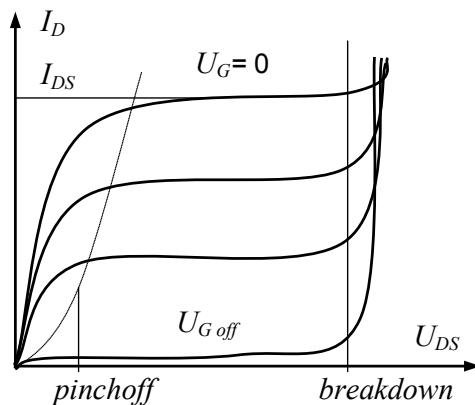

Fig. 1.33
**Output characteristics.** Fig. 1.33 illustrates a set of *drain curves* of a JFET. The drain current  $I_D$  versus drain-source voltage  $U_{DS}$  increases rapidly at the first ohmic region, then levels off and becomes almost horizontal at the second active region. If the drain voltage is too high, the JFET breaks down. The minimum voltage of the second active region is called a *pinchoff*, and the maximum voltage is called the breakdown. Between the pinchoff and breakdown, the JFET acts approximately like a stable current device with a shorted gate. The gate voltage  $U_{G\text{ off}}$  of the bottom curve is called a *gate-source cutoff voltage*. This voltage closes the transistor. As shown in Fig. 1.33, in the ohmic region, the drain resistance depends on  $U_G$ . Unlike the bipolar transistors, one can change this quantity by altering the gate voltage. Typically, the on resistance of a FET device is on the order of  $10 \Omega$  to  $100 \Omega$ .